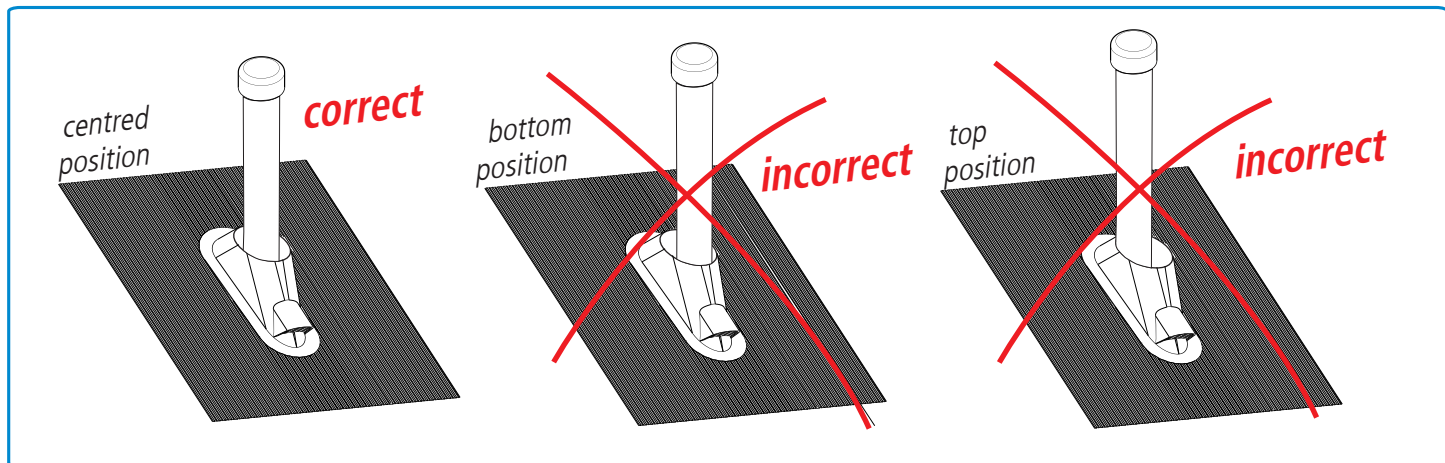
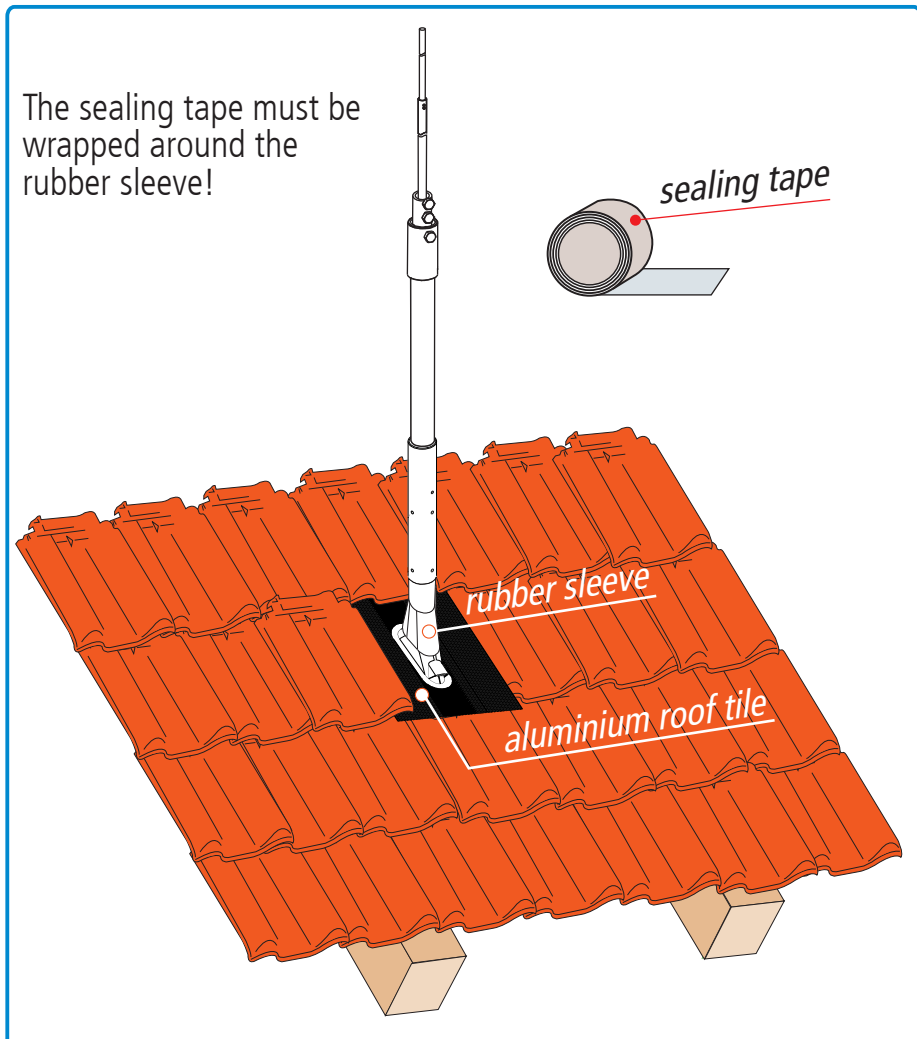

Fig. 16
Fig. 17
Due to its centred position, the tube support has enough space for "swinging". If this space is not provided, the aluminium roof tile might be damaged in the course of time (see Fig. 16 and Fig. 17).
- Remove the three adhesive protection strips from the aluminium roof tile and firmly press it on the adjoining roof tiles. The adhesive joint of the aluminium roof tile is vulcanised by solar radiation and will gradually harden (see Fig. 17 and Fig. 18, page 16).
The aluminium roof tile must be flanged to these roof tiles in a plane way (see Fig. 17 and Fig. 18, page 18).